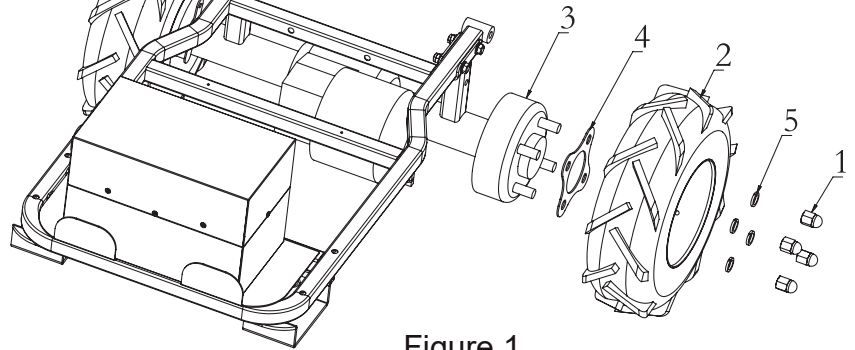

Figure 1
1. Install the wheel(2), the wheel pad(4) and 4 elastic washer(5) into the axle(3), and the wheel pattern is as shown in the figure..
2. Use four cap nuts (1) to secure the wheel to the axle.
**(See Figure 1)**